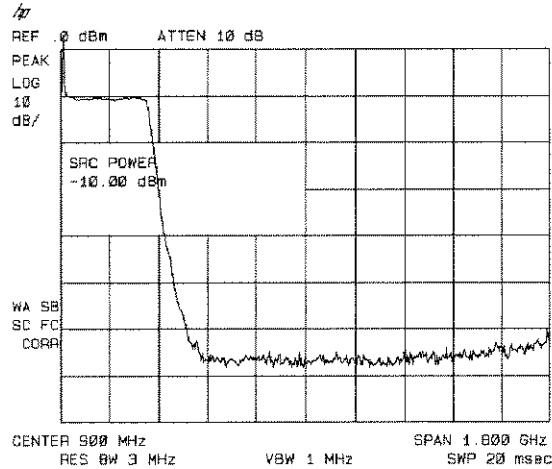

Figure 4-5. Tracking-Generator Output Power Activated
3. Activate the tracking generator menu by pressing **AUX CTRL** and **Track Gen**. To activate the tracking-generator power level, press **SRC PWR ON OFF** until ON is underlined. See Figure 4-5.